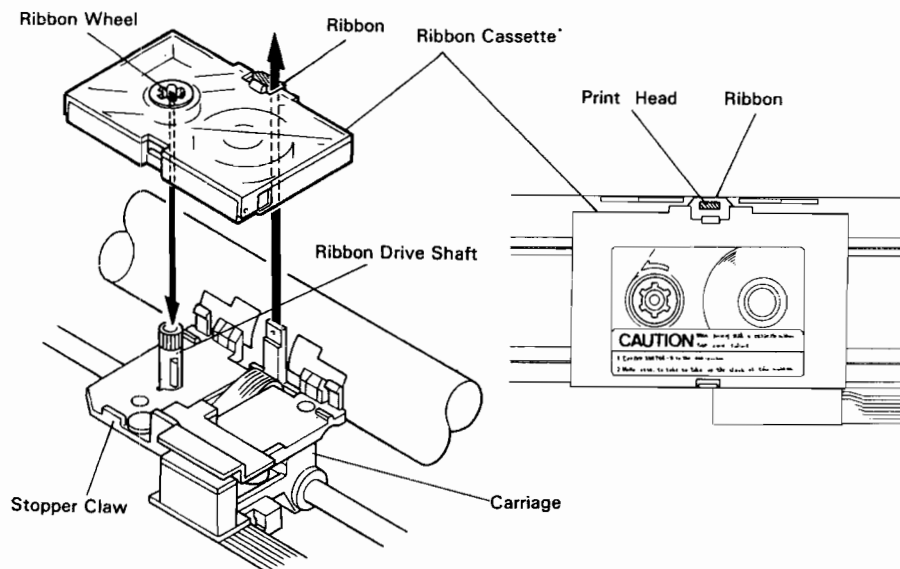

Figure 7. Ribbon Cassette Installation
7. Move the Carriage back and forth manually to check that the Ribbon advances properly. If the Ribbon has not been properly fitted between the Print Head and the Platen, the Ribbon feed will not operate smoothly. (See Figure 7.)